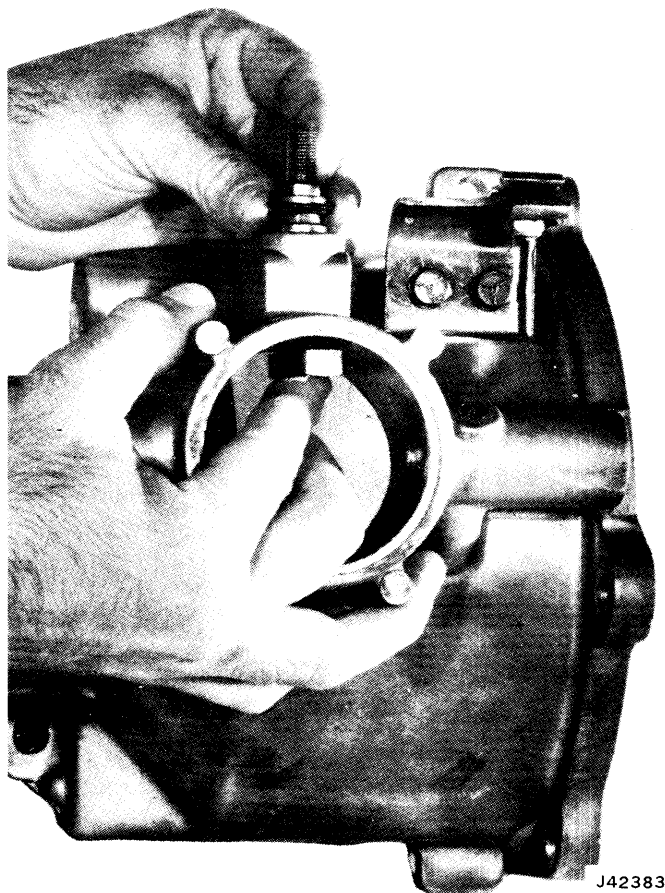
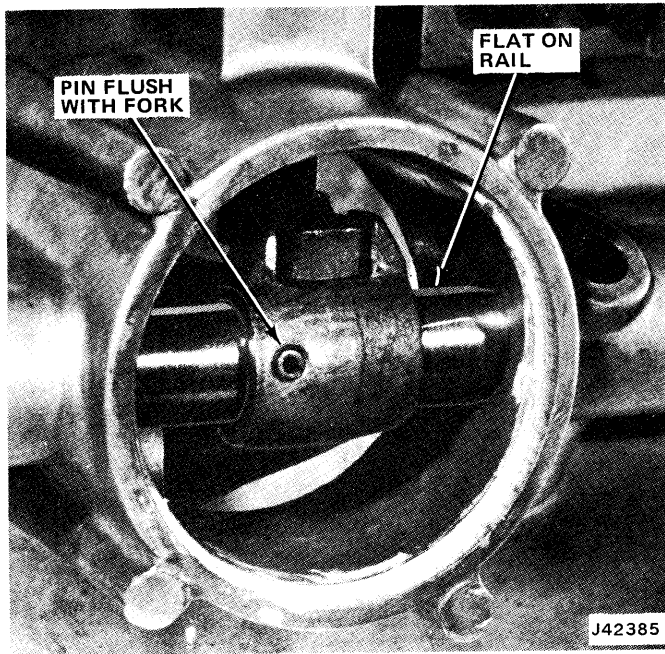

Fig. 8-34 Shift Lever O-Ring Installation
Fig. 8-36 Shift Rail Installed
(4) Insert shift lever assembly, without O-ring, fully into housing with lever end facing rearward.
(5) Install O-ring seal in shift lever shaft groove (fig. 8-34).
(14) Slide shift rail over poppet ball as far as spring pin will allow.
(15) Remove spring pin and slide shift rail to first detent position.
(16) Rotate shift rail until flat side is facing shift lever assembly and spring pin bore is aligned with spring pin bore in shift fork.
(17) Slide shift fork on shift rail to align spring pin holes.
(18) Install spring pin flush with outside surface of shift fork (fig. 8-36).
(19) Install shift rail taper plugs, poppet bore taper plug and shift rail cover expansion plug.
(20) Install shift fork locating spring pin.
(21) Install control lever.